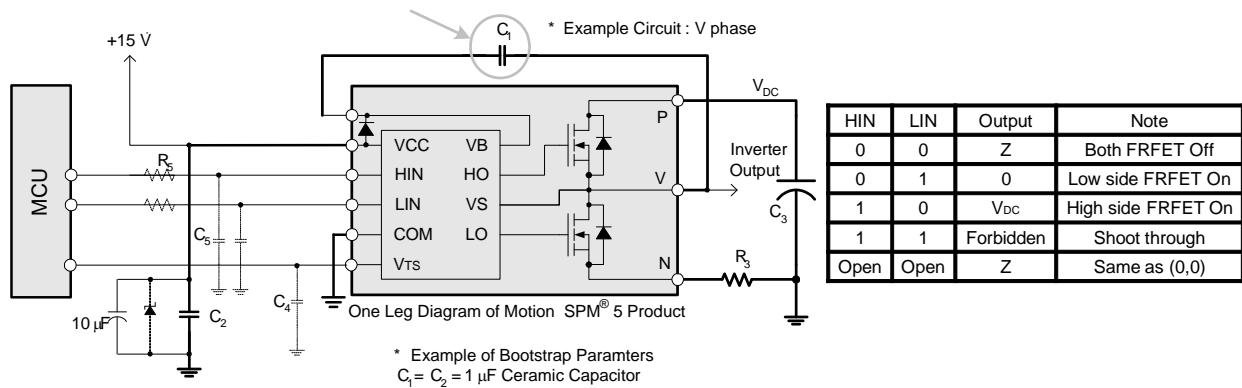

Figure 3. Recommended MCU Interface and Bootstrap Circuit with Parameters
- Source terminal of each low-side MOSFET is not connected to supply ground or bias voltage ground inside Motion SPM® 5 product. External connections should be made as indicated in Figure 3.